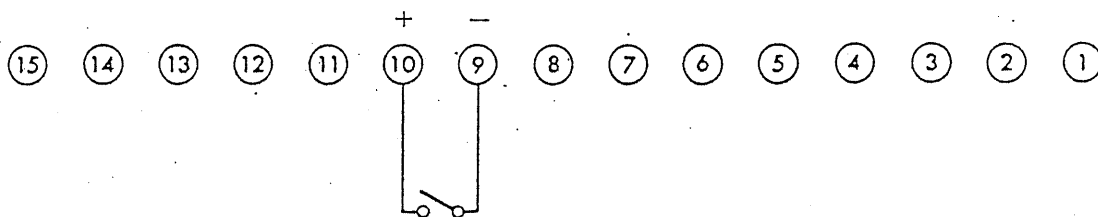

Figure 2-13-1
- As shown in Fig. 2-13-1, connect the external load switch between terminals 9 and 10 on the terminal board. The switch capacity should be around 125 V AC at 1 A.